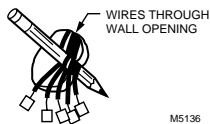

Fig. 2. Wrapping wires around pencil.
- Disconnect wires from old thermostat or subbase. As you disconnect each wire, use the wiring labels (enclosed) to label each wire with the old terminal designation. If there are only two wires, they do not require labeling. Wrap wires around a pencil to keep them from falling back into the wall as shown in Fig. 2.